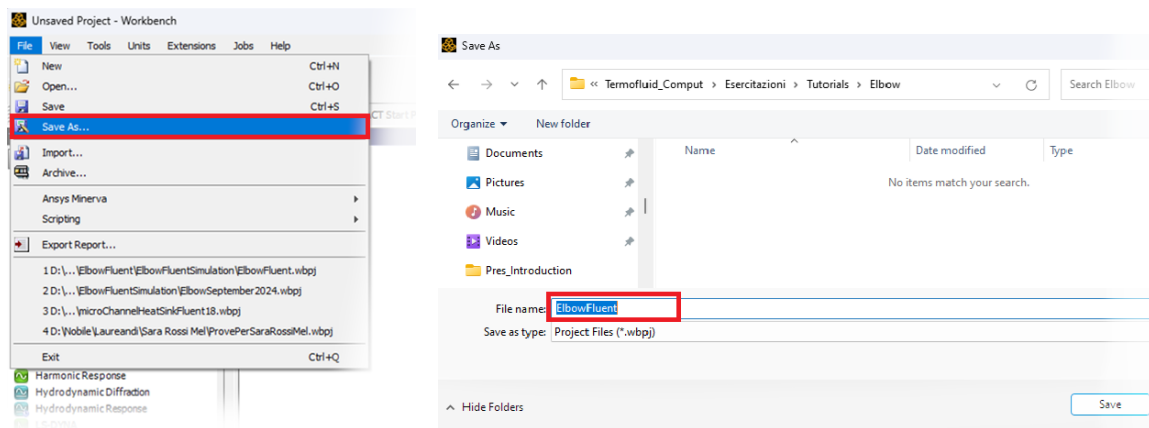

Figure 7: Saving and naming the project.
- In the meantime, let's save the WB project in the chosen working folder (it is advisable to use a separate working folder for each project), by selecting the *Save Project as* icon  from the menu bar or from *File* → *Save as*, and name it *ElbowFluent* (the extension *.wbpj*, from *WorkBench ProJect*, will be assigned automatically), as in figure 7.